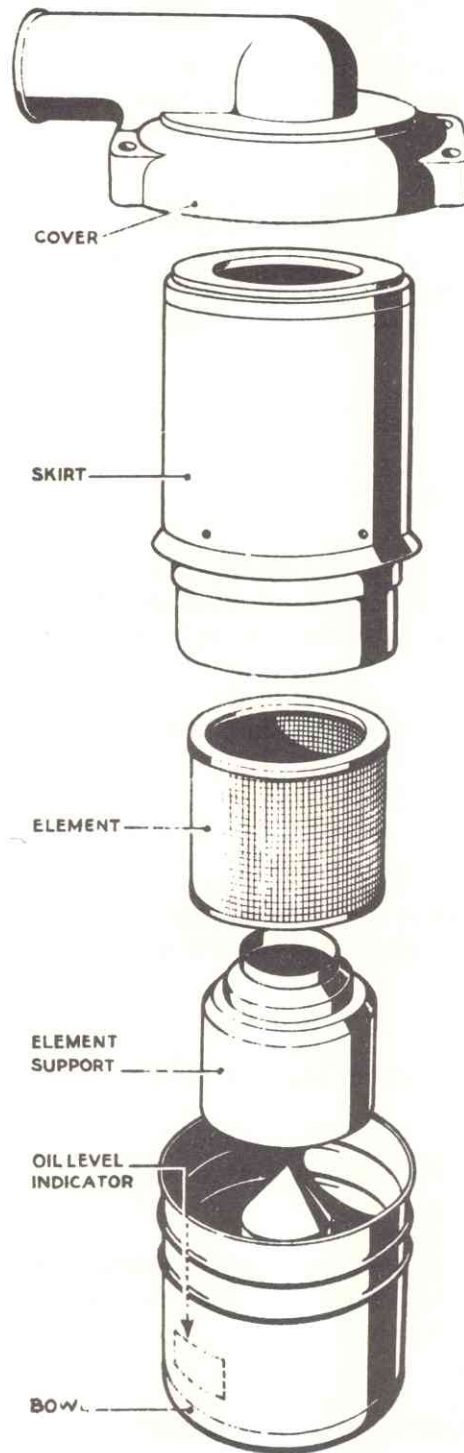

Fig. 8. Air Cleaner Components
7. Re-assemble the cleaner and refill with oil to the point of the arrow on the oil level indicator inside the bowl, see Fig. 8.